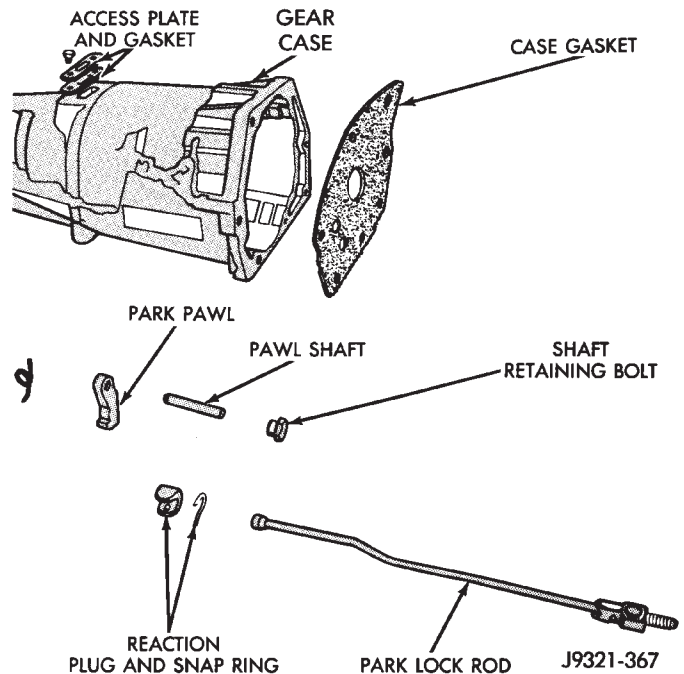
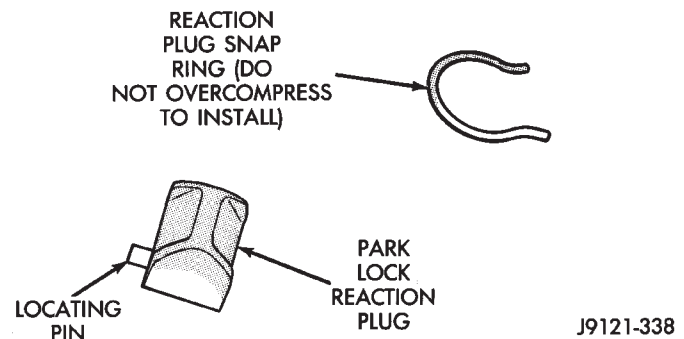

Fig. 298 Park Lock Components
Fig. 299 Reaction Plug Locating Pin And Snap Ring
(1) Position park pawl and spring in case and install park pawl shaft (Fig. 298). Verify that end of spring with 90° bend is hooked to pawl and straight end of spring is seated against case.
(2) Install pawl shaft retaining bolt. Tighten bolt to 27 N·m (20 ft. lbs.) torque.
(3) Install park lock reaction plug. **Note that plug has locating pin at rear (Fig. 299). Be sure pin is seated in hole in case before installing snap ring.**